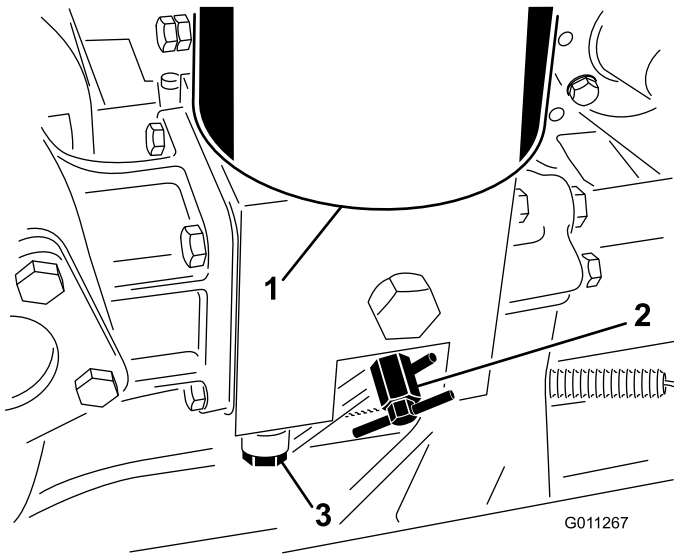

Figure 1
2. Slowly open the high pressure bleed valve (Figure 1) allowing any pressurized water to escape from the pump, valve and accumulator. Make sure the accumulator is completely discharged.
3. Loosen and remove the 4 bolts securing the accumulator to the main valve (Figure 1).